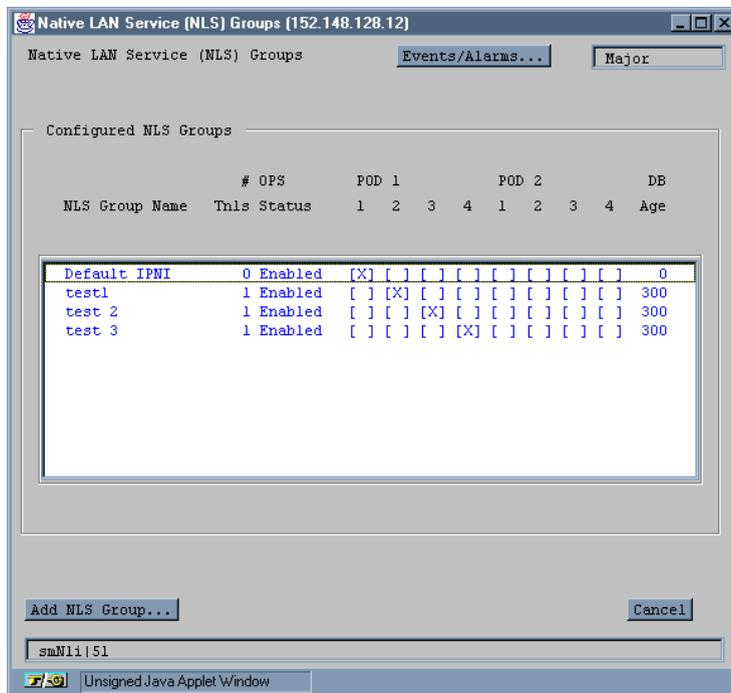
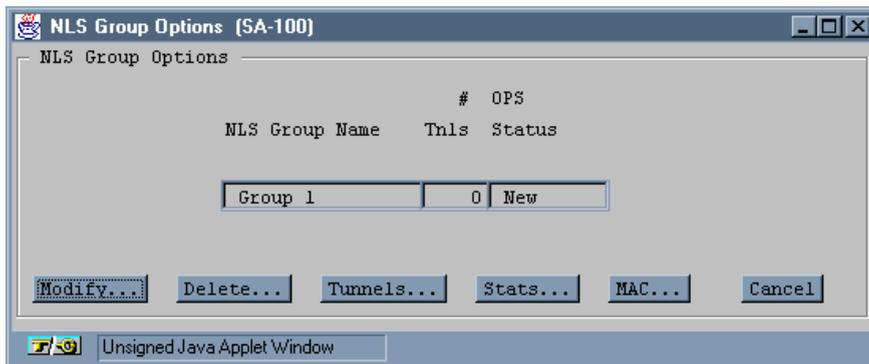

Figure 5-8. Native LAN Service (NLS) Groups Window
Figure 5-10. NLS Group Options Window
2. Choose the Native LAN Service (NLS) button. The Native LAN Service (NLS) Groups window appears (see Figure 5-8).
- After configuring the ports of a 10/100 Ethernet POD, as described in “Configuring an Ethernet Port” on page 4-5, you can configure the Native LAN Service (NLS) by choosing the Service Management button in the Configure Ethernet Port window. The Native LAN Service (NLS) Groups window appears (see Figure 5-8).
- In the Native LAN Service (NLS) Groups window (Figure 5-8), choose the Add NLS Group button. The Add NLS Group window appears (Figure 5-9).
1. Select the group from the list of defined groups in the NLS Groups window (Figure 5-8). The NLS Group Options window appears (Figure 5-10):
1. Select the group from the list of defined Groups in the NLS Groups window (Figure 5-8). The NLS Group Options window appears (Figure 5-10):
1. Select the group from the list of defined Groups in the NLS Groups window (Figure 5-8). The NLS Group Options window appears (Figure 5-10).